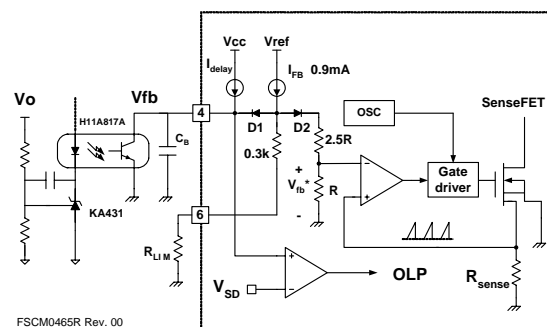

Figure 18. Pulse Width Modulation (PWM) Circuit
2. Feedback Control: The FSCM0465R employs current mode control, as shown in Figure 18. An optocoupler (such as the H11A817A) and a shunt regulator (such as the KA431) are typically used to implement the feedback network. Comparing the feedback voltage with the voltage across the Rsense resistor makes it possible to control the switching duty cycle. When the reference pin voltage of the KA431 exceeds the internal reference voltage of 2.5V, the H11A817A LED current increases, pulling down the feedback voltage and reducing the duty cycle. This event typically happens when the input voltage is increased or the output load is decreased.
2.1 Pulse-by-pulse Current Limit: Because current mode control is employed, the peak current through the SenseFET is determined by the inverting input of the PWM comparator (V_{fb}^*) as shown in Figure 18. When the current through the opto-transistor is zero and the current limit pin (#5) is left floating, the feedback current source (I_{FB}) of 0.9mA flows only through the internal resistor ($R+2.5R=2.8k$). In this case, the cathode voltage of diode D2 and the peak drain current have maximum values of 2.5V and 2.5A, respectively. The pulse-by-pulse current limit can be adjusted using a resistor to GND on the current limit pin (#5). The current limit level using an external resistor (R_{LIM}) is given by: